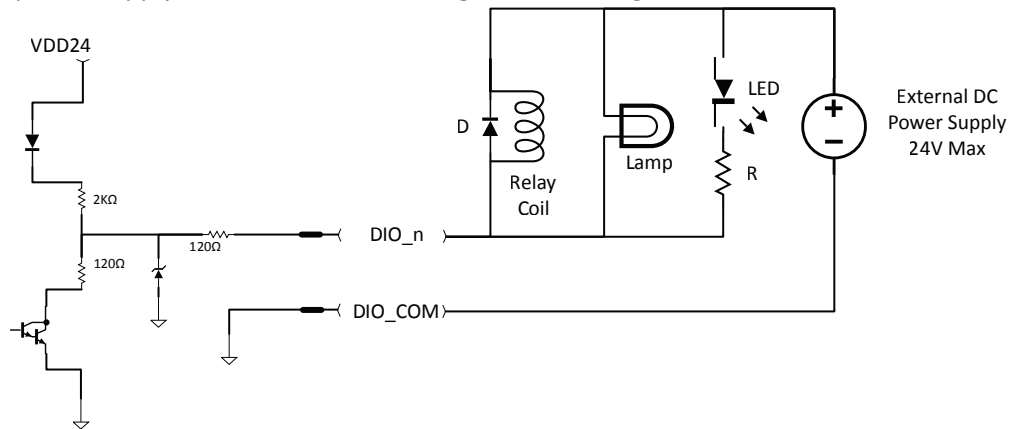

Figure 5
11.10.1 A DIO output is designed for low true operation. It is able to sink current (50 mA) to directly drive small 12V relay coils or lamps. Here is an example of a DIO being used to drive low true outputs. This mode requires an external power supply as shown in the drawing below. See *Figure 5*.